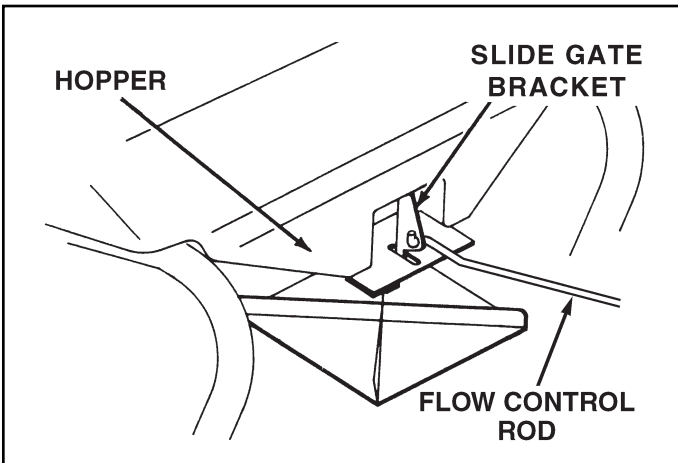

FIGURE 10
- Hook the double bent end of the flow control rod through the hole in the slide gate bracket located near the bottom of the hopper. See figure 10.